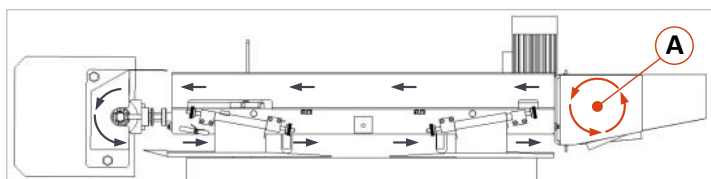

Figure 11: Direction of rotation of the drive drum (top view)
The drive drum (A) must rotate (still without the sanding belt inserted) in the direction of the arrow shown in ⇒ Figure 11. A sanding belt may only be inserted once this requirement has been fulfilled.
**If the direction of rotation of the drive roller (A) is incorrect, the connections of the phases L1 and L2 must be interchanged.**